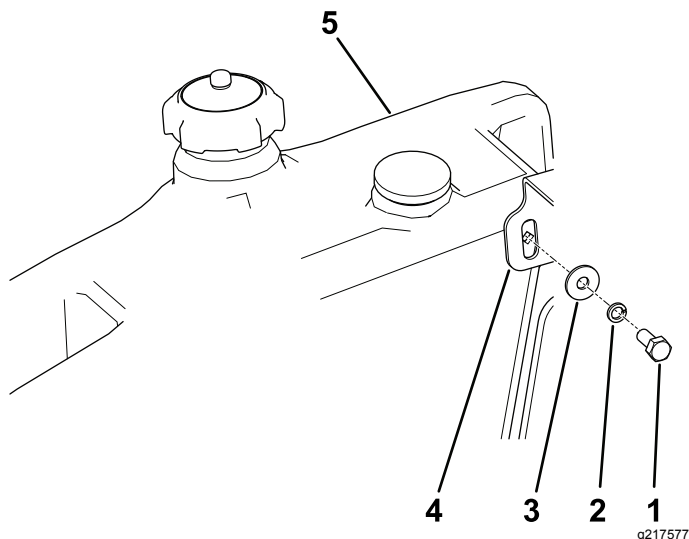

Figure 8
- Fastener (2)
- Spring washer (2)
- Washer (2)
- Remove the fastener, the spring washer, and the washer securing the fuel tank to the bulkhead bracket (Figure 8).